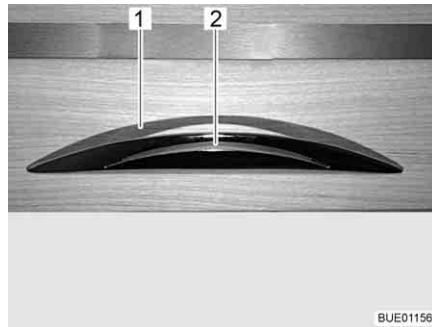

Fig. 53 Furniture flap with release handle
- Press the release handle (Fig. 53,2) and hold it down.
- Pull the release handle (Fig. 53,1) until the furniture flap is open.